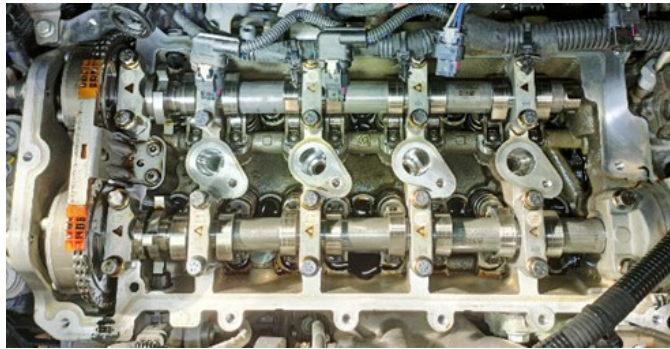

Fig. 2
10. Remove the valve cover (1016A20) Fig. 2.